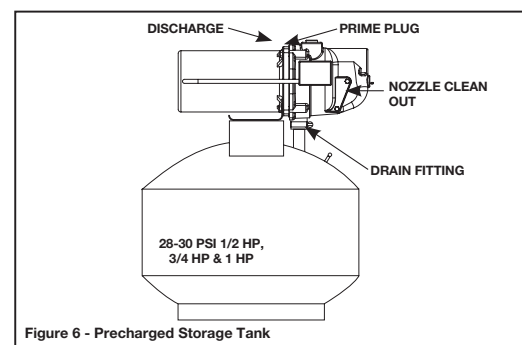

Figure 6 - Precharged Storage Tank
1. Remove drain fitting and prime plug to vent the system (see Figure 6).